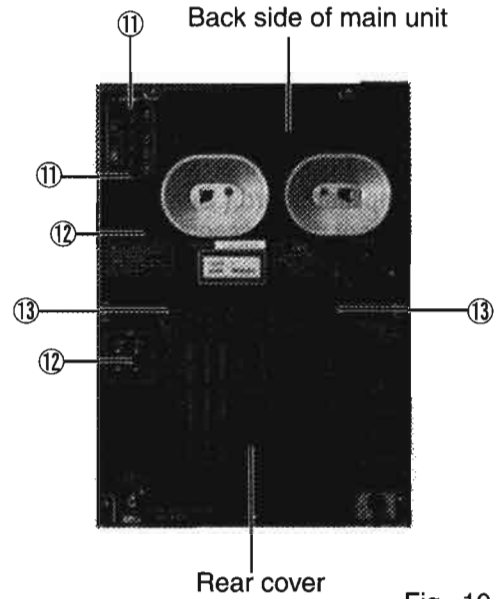

Fig. 10
(See Figs 10, 11)
4. Remove the two screws ⑪ fastening the tuner board to the back side of the main unit.(See Fig. 10)
5. Remove the two screws ⑫ fastening the line amplifier board to the back side of the main unit. (See Fig. 10)
(See Figs 10,12,13)
6. Remove the two screws ⑬ fastening the rear cover to the back side of the main unit.(See Fig. 10)